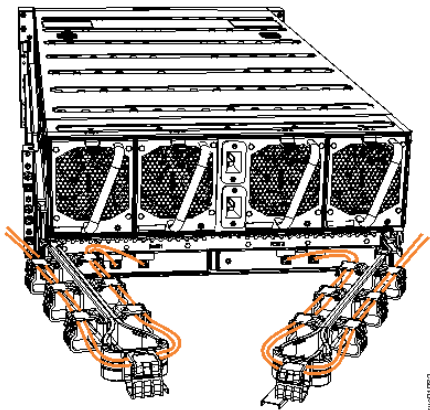

Figure 167. Example of SAS cables routed through the cable management arms
8. Route the SAS cables through the cable management arms, as shown in Figure 167 on page 224.